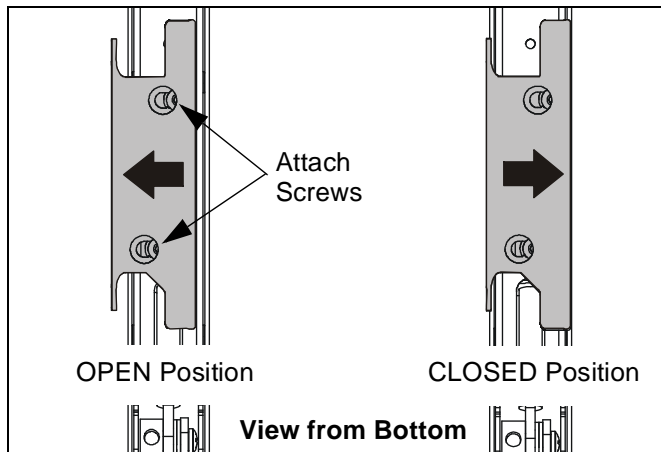

Figure 21: Height Adjustable Arm - Cable Management Bracket
2. Open the cable management bracket by sliding it towards the edge of the arm (See Figure 21).
4. Close cable management bracket by sliding it back towards the centerline of the arm (See Figure 21).